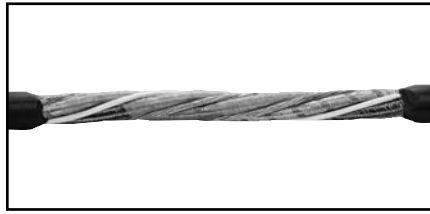

Figure 5
1. Stagger the conductors so that the finished splice will have the smallest possible diameter, and so that all reconnected conductors will be of equal length. (Figure 5)